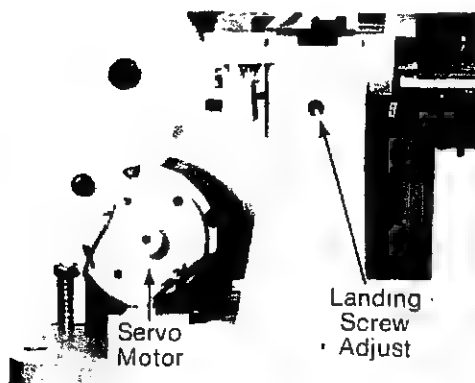

Fig. 3-1. Landing Screw Adjust
4. Adjust landing screw (Fig. 3-1) and recheck set-down as necessary.